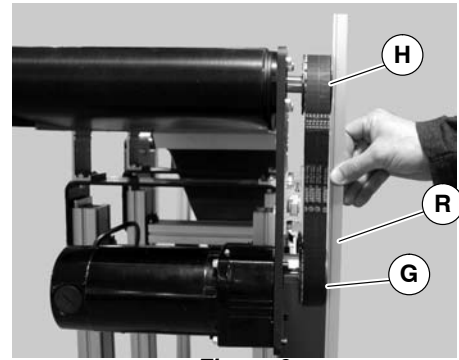

Figure 6
- Wrap timing belt (F) around driven pulley (H) and drive pulley (G). Install driven pulley (H) onto conveyor shaft.
- Using a straight edge (R of Figure 6), align driven pulley (H) with drive pulley (G). Tighten driven pulley taper-lock screws (S of Figure 7).